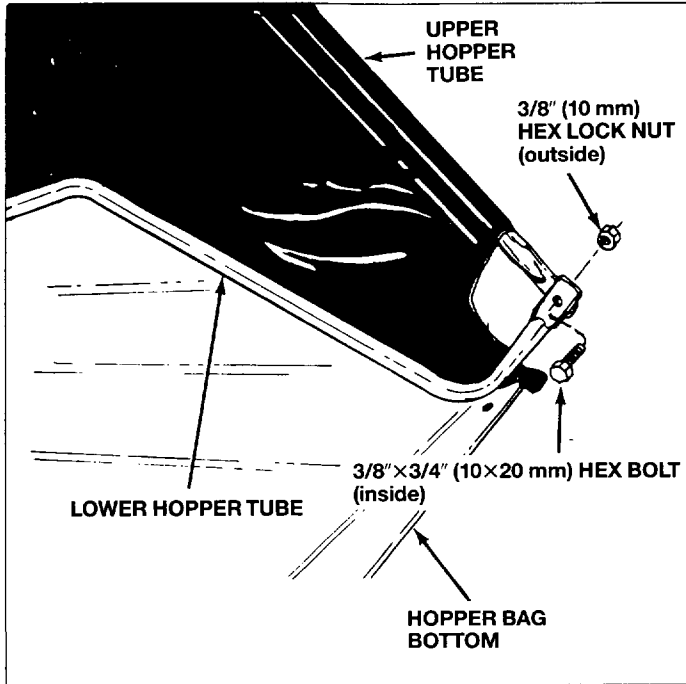

Fig. 17
- Place assembled lower hopper tubes into bottom of hopper bag as shown in figure 17.
- Assemble the upper and lower hopper tube ends together with two $3/8" \times 3/4"$ (10×20 mm) hex bolts (inside) and $3/8"$ (10 mm) hex lock nuts (outside). See figure 17. Do not overtighten to allow for pivot.